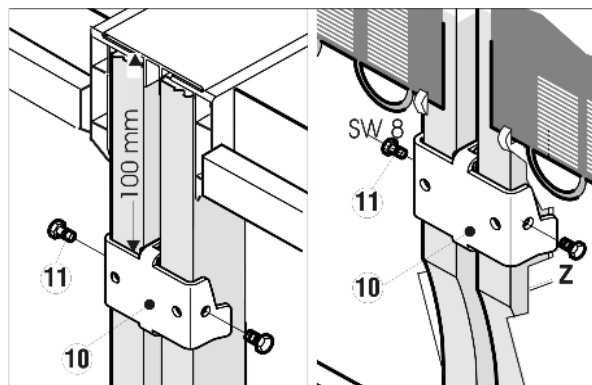

Fig. 6
- ▶ At the top and bottom back, attach the wide mounting brackets Fig. 6 (10).
- ▶ Insert the lower mounting bracket into the appropriate recess (Z).
- ▶ Firmly screw on the two mounting brackets Fig. 6 (10) using hexagon screws Fig. 6 (11) on the sides.